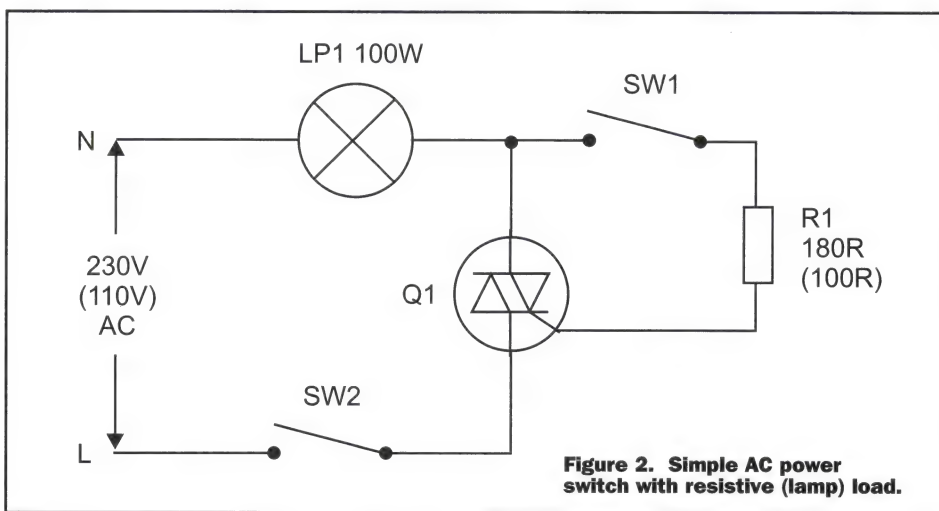

Figure 2. Simple AC power switch with resistive (lamp) load.
Figure 2 shows a triac used as a simple AC power switch, driving a resistive lamp load; assume that SW2 is closed. When SW1 is open, the triac acts as an open switch and the lamp passes zero current. When SW1 is closed the triac is gated on via R1 and self-latches shortly after the start of each half-cycle, thus switching full power to the lamp load; the triac automatically unlatches at the end of each AC half-cycle as the instantaneous supply voltage (and thus the load current) briefly falls to zero.
In Figure 2, the task of R1 is that of limiting the peak instantaneous switch-on gate current of the triac to a safe value; its resistance (combined with that of the load) must be greater than the peak supply voltage (roughly 350V in a 240V AC circuit, 175V in a 120V circuit) divided by the triac's peak gate current rating. This is usually given in the triac manufacturer's extended data sheets.
Note in Figure 2, and in most other triac circuits shown in this mini-series, that - for safety reasons - the load is wired in series with the AC supply's neutral (N) line, and master on/off switch SW2 can isolate the entire circuit from the live (L) line.